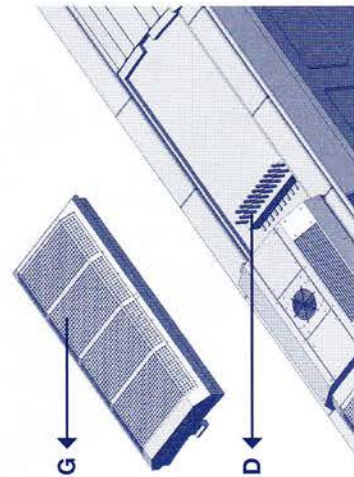

Figure 4
The FLIRT model has a 21 + 2 pin decoder interface (D). The installed interface board contains the switching circuit for the stop function. If you wish to convert to digital operation by installing a decoder, the stop function is deactivated. To install a decoder, you do not need to remove the housing of unit A. The interface is located in front of the entry doors on the top board directly underneath the large resistor cover (G). This part is held by two clip-in lugs and can be lifted upwards (Fig. 4).